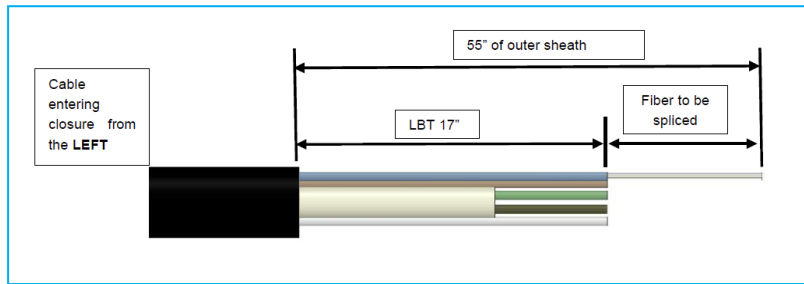

Figure 6
5.1.3.9 If cable enters closure from the left, mark buffer tube **17"** from sheath opening, ring cut and remove tubing. See Figure 6.